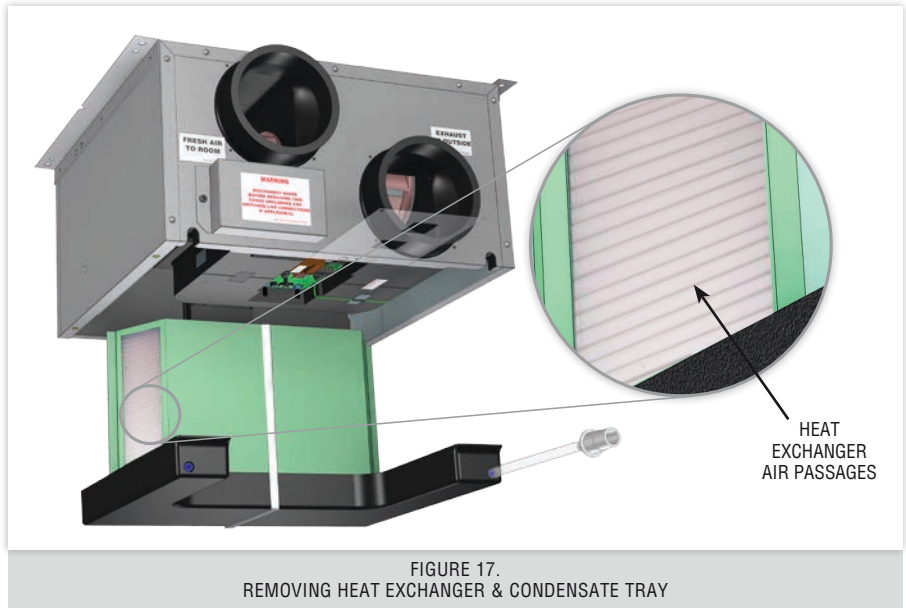

FIGURE 17.
- 14.5.2 Withdraw the heat exchanger and condense tray assembly by pulling on the securing strap and remove from the unit. Take care to avoid damaging the heat exchanger air passages. See Figure 17 & 18.